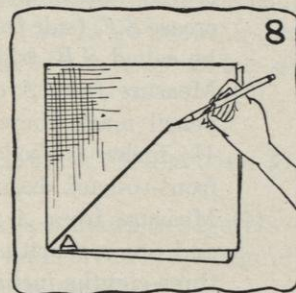

FIG. 8.
- (3) Draw a line from point A to the opposite corner of the square, as shown in Figure 8.